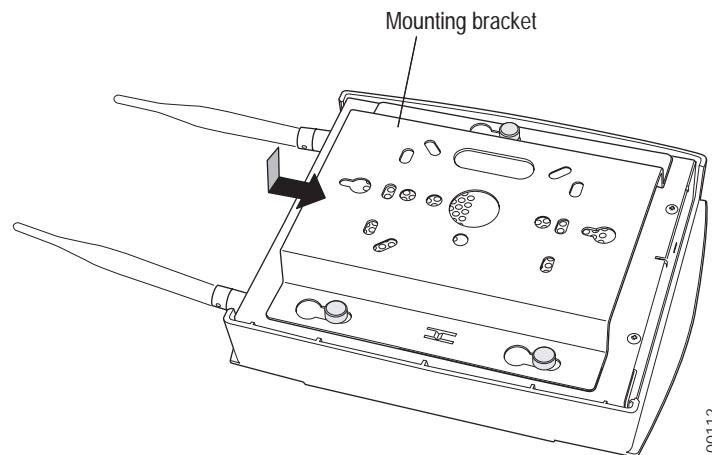

Figure 19: Sliding the AP200 into the Bracket
8. Align the AP200 mounting posts over the circular portion of the keyhole mounts, push the AP in and slide the AP down until it engages with the locking detents (see Figure 19). You should hear it snap in place.
10. Connect the posts of the AP200 to the three keyholes of the mounting bracket and slide into the keyhole (see Figure 19), ensuring the locking detent is engaged. You will hear a click.